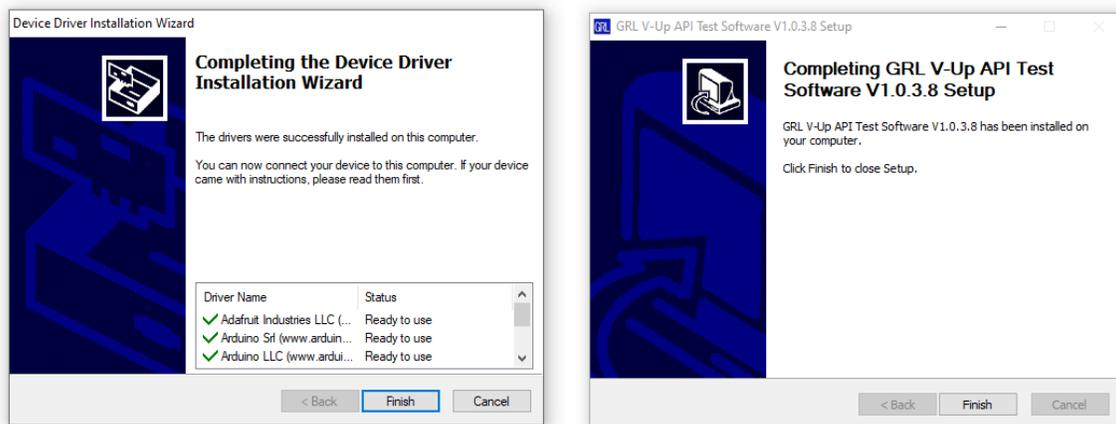

FIGURE 3.7: GRL-V-UP API TEST SOFTWARE INSTALLATION COMPLETED
8. Once the drivers installation is completed, click on the “Finish” buttons to complete the GRL-V-UP API Test software installation as shown in Figure 3.7.